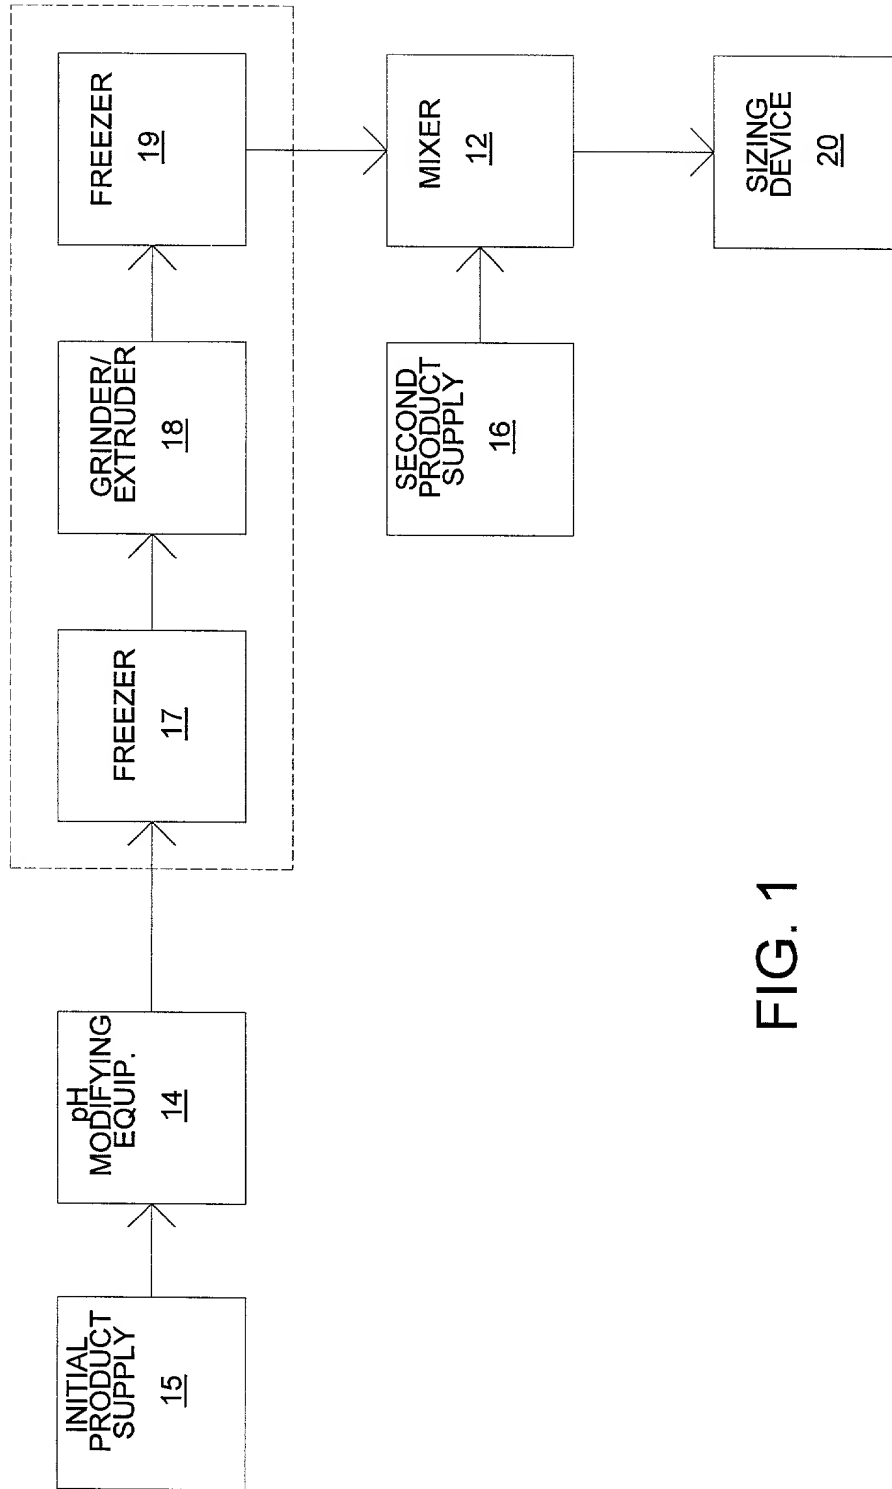

FIG. 1
FIG. 1 is a schematic diagram of a process for producing a frozen product. The process starts with an initial product supply (15) which is fed into pH modifying equipment (14). The output of the pH modifying equipment (14) is fed into a freezer (17). The output of the freezer (17) is fed into a grinder/extruder (18). The output of the grinder/extruder (18) is fed into a freezer (19). The output of the freezer (19) is fed into a mixer (12). The mixer (12) also receives input from a second product supply (16). The output of the mixer (12) is fed into a sizing device (20).